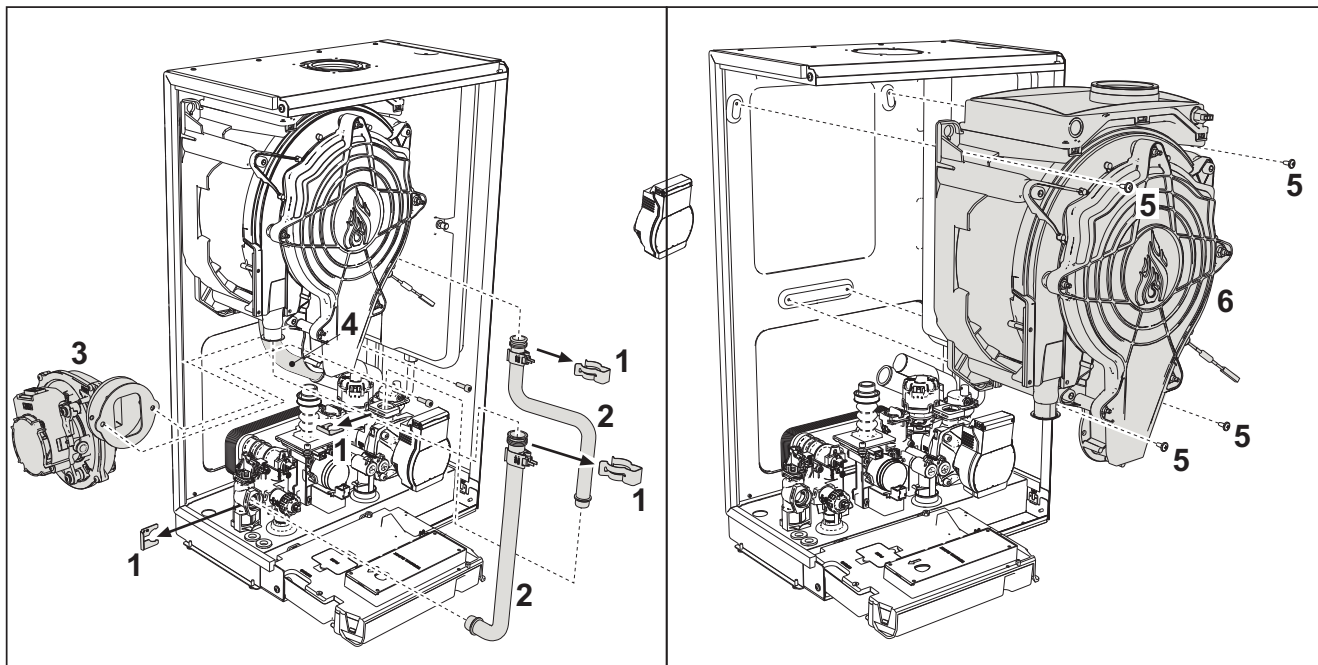

fig. 42- Main exchanger
- Remove the 2 top screws "5" securing the exchanger to the frame (fig. 42)
- Loosen the 2 bottom screws "5" securing the exchanger to the frame (fig. 42)